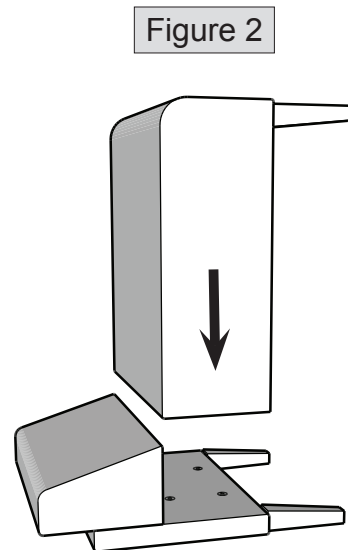

Figure 2
4. Lay back assembly on a soft clean surface, as shown in figure 2.